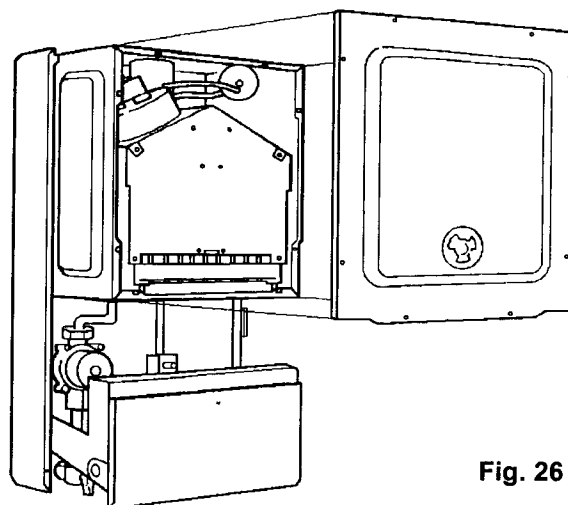

Fig. 26
Part No. 5904 Refer to fig. 26
8.5.2 Remove room sealed front cover plate by releasing eight screws fig. 26) and easing cover off. The screws are not captive. Inspect gasket for damage. If damaged, replace.